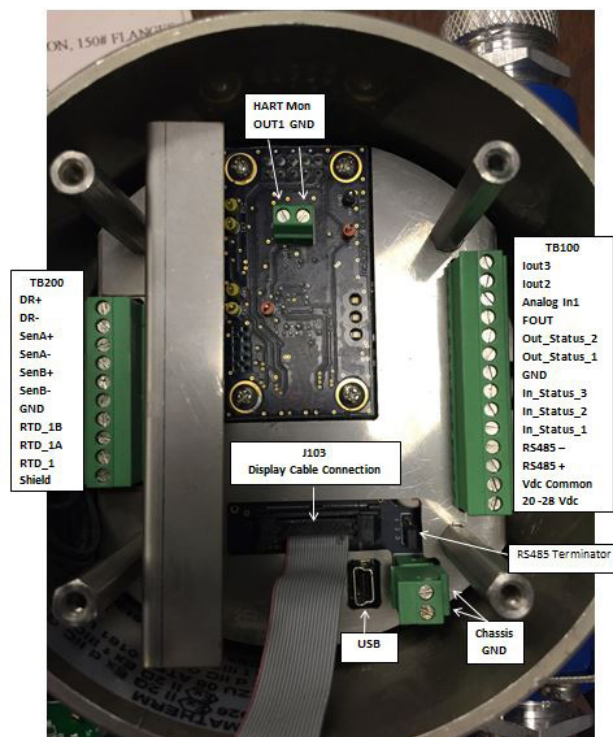

Figure 34: Wiring reference: RCTX with display shown and display board removed for clarity
1. Connect an 18...28V DC Class 2 power source as illustrated in the schematic in *Figure 34*. Terminal blocks in the RCTX accommodate wire gauges up to 16 AWG.
**TB100** (See *Figure 34*.)